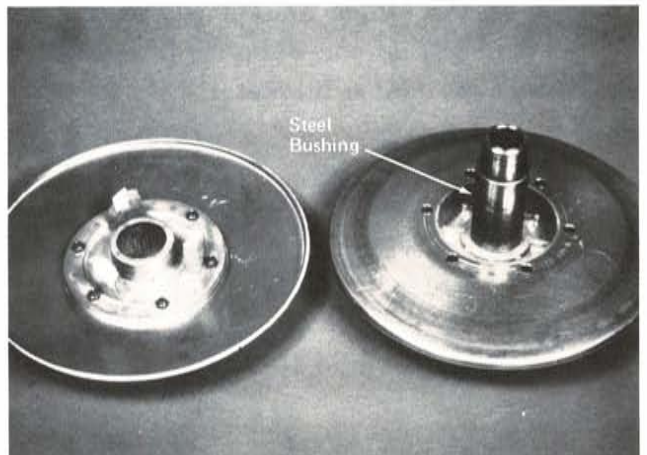

Fig. 10
9. Slide steel bushing from shaft in stationary sheave (Fig. 10).